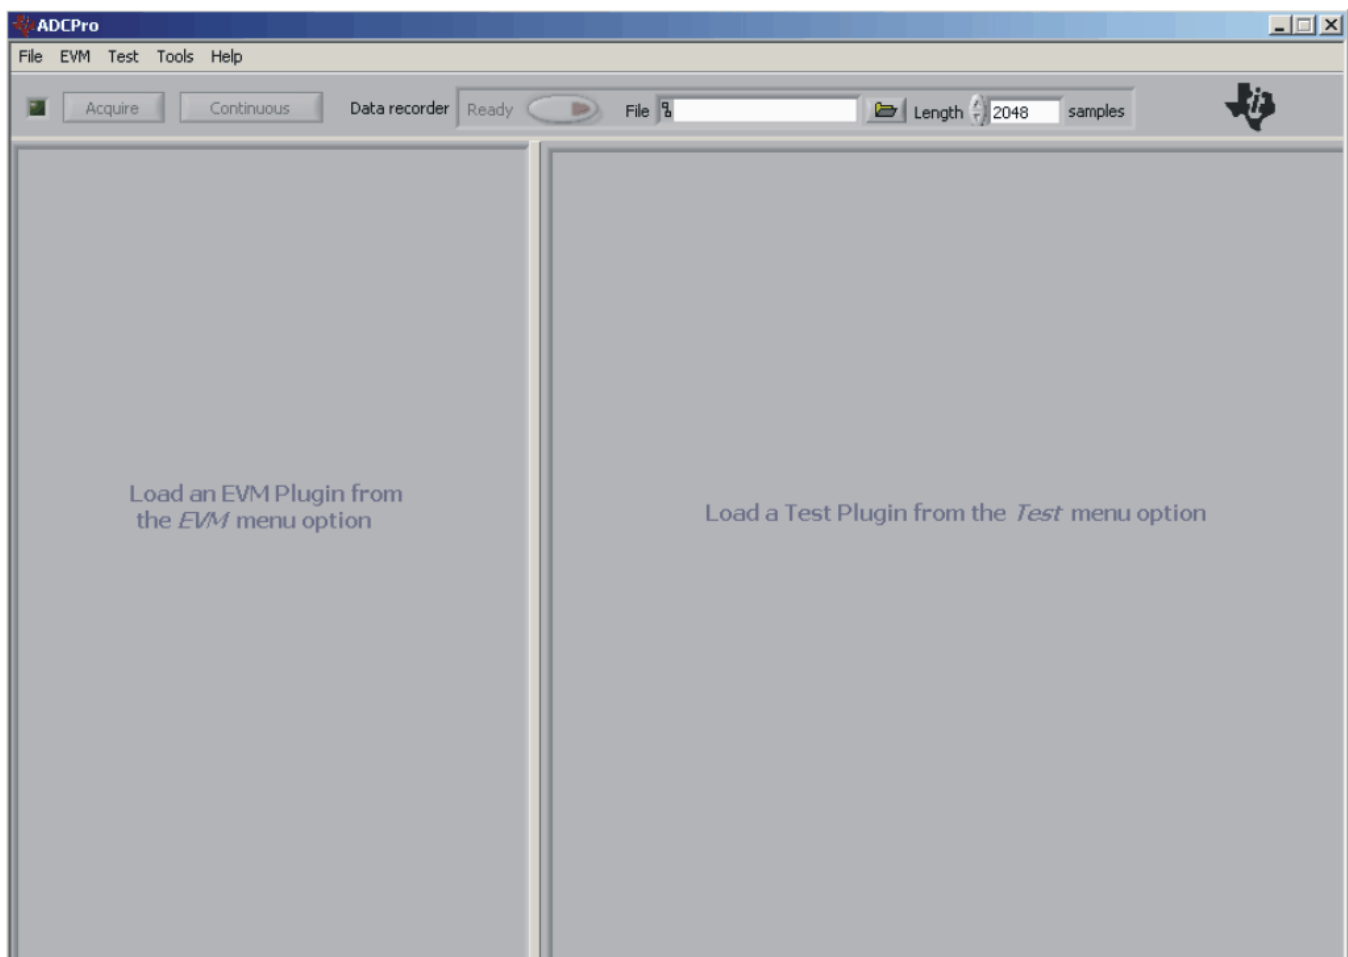

Figure 9. ADCPro Software Start-up Display Window
Step 1. Start the software by selecting *ADCPro* from the Windows Start menu. The screen in Figure 9 appears.